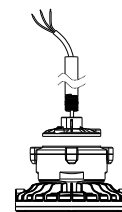
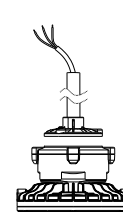

Figure 8
Figure 9
3. Run the wire through the steel tube and screw the threaded tube into the fixture (figure 8, figure 9).